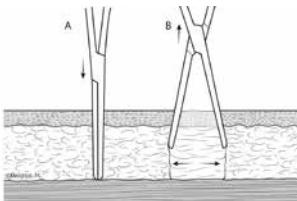

Figure 4
2. Perform blunt dissection with hemostats to the anterior surface of the rectus sheath (Figure 4 A & B), use cauterization device as necessary to control bleeding.